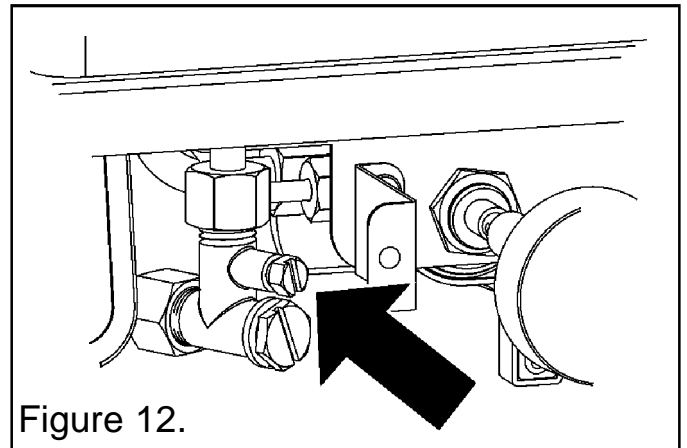

Figure 12.
1. Check the inlet pressure by fitting a pressure gauge at the test point. The test point is on the inlet 'T' connector (See figure 12). Check the pressure with the appliance alight and set at maximum output.